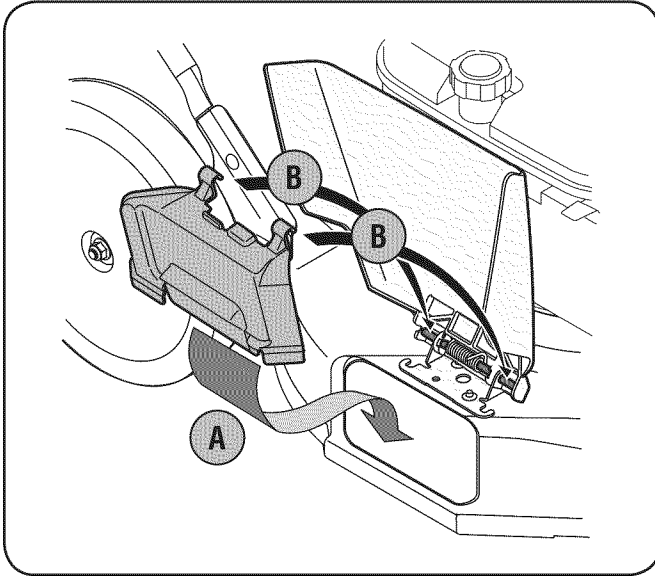

Figure 3-7
- a. Lift up and hold the side-discharge chute deflector and insert bottom lip of the mulching baffle inside the chute opening See Fig. 3-7.